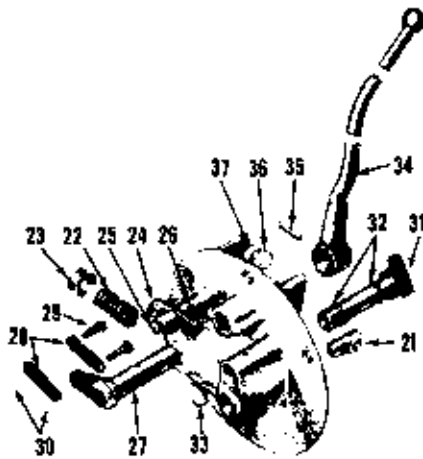

Fig. FO67—Exploded view of control valve unit. Pto shifter lever is also installed in plate, but is not shown in above view.
When use of the pto clutch is not desired, mechanical lock-up may be obtained with the tractor engine running by opening the valve (31—Fig. FO67) which by-passes oil from the pto pump directly into the hydraulic oil reservoir.
Moving the control lever rearward against the adjustable stop (36—Fig. FO67) reduces spring pressure on the control valve. Note: Control valve is not shown, but is located in bore in the pto shifter plate ahead of the spring (22). The control valve then moves to rear and partially by-passes oil from the pto pump to the hydraulic reservoir allowing system pressure to drop. Springs (8—Fig. FO68) can then move clutch piston rearward releasing pressure on the
101. If clutch unit will not disengage from mechanical lock-up, check hydraulic system oil level. If oil level is at full mark on dip stick, detach pump pressure line from fitting (21—Fig. FO67) on pto shifter plate and turn engine with starter. If oil does not flow from line, check pump prime, mechanical drive to pump (drive can be assumed OK if proof-meter is operational), and pump suction line for obstructions. Renew pump as outlined in paragraph 108 if oil flow from pressure line cannot be obtained.
107. **CLUTCH RELEASE PRESSURE.** A low oil pressure must be maintained in the clutch unit to keep it from going into mechanical lock-up when released. This pressure is determined by the spring pressure applied to the control valve when the control lever is against the stop (36—Fig. FO67). If the pressure is too high, the clutch will not release; if too low, the pressure plate internal splines will contact the splines on the clutch hub and either make a noise or go into mechanical lock-up.
Disassembly of control valve unit is obvious after inspection of unit and reference to Fig. FO67. Control valve is not shown but is located in bore beneath spring (22). Renew "O" rings on valve (31) if leaking to outside or internal leak is suspected. Control valve should move freely in bore.